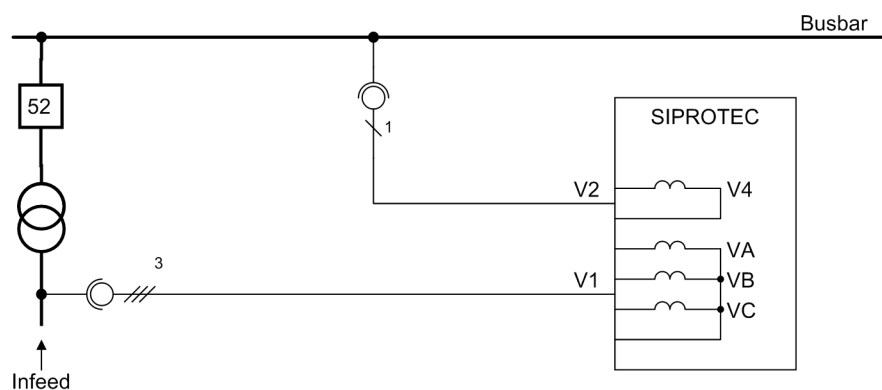
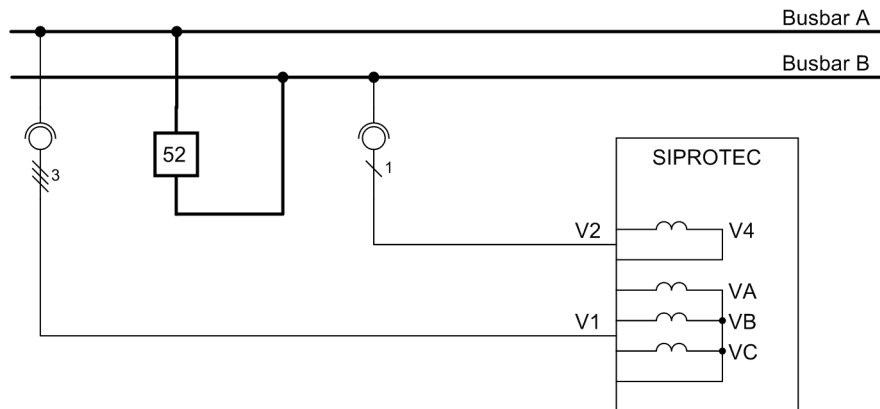

Figure 2-116 Infeed
Figure 2-117 Bus coupler
- Typical applications are, for example, the synchronism check of a feeder and a busbar (see Figure 2-116) or the synchronism check of two busbars via bus coupler (see Figure 2-117).
If a transformer is connected between the two voltage transformers (Figure 2-116), its vector group can be adapted in the 7SJ62/64 relay so that external adaptors are not required.